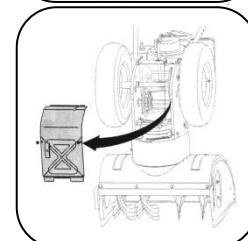

Figure 21
- Carefully pivot the snow thrower up and forward so that it rests on the auger housing. Remove the frame cover from the underside of the snow thrower by removing four self-tapping screws which secure it. See Figure 21.